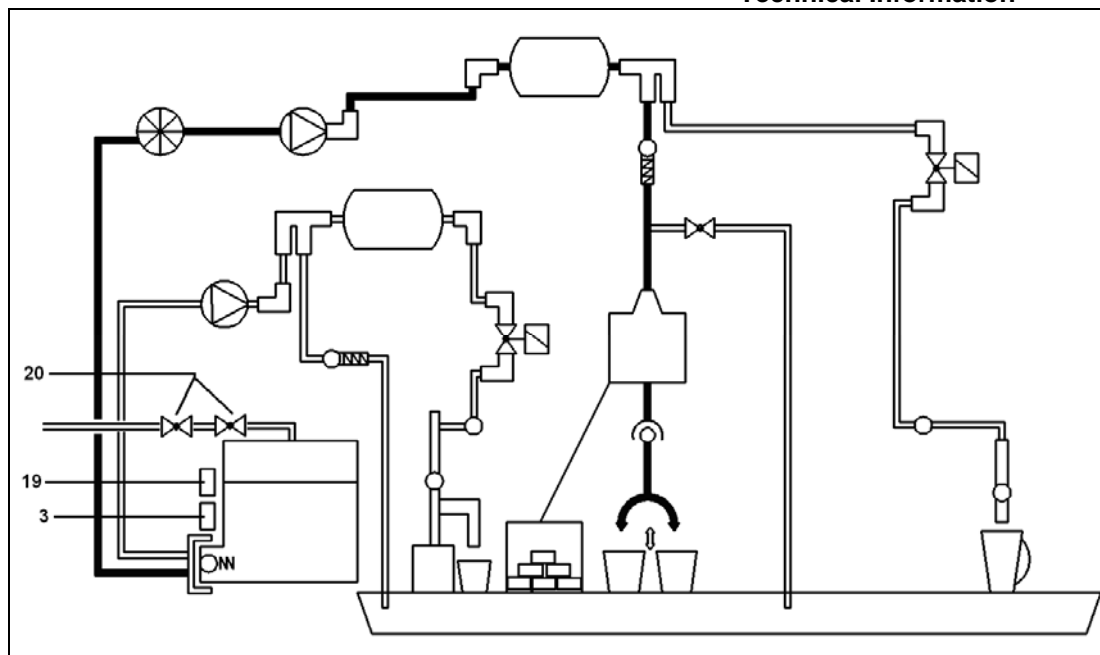

Figure 4-16: CVA 4075 Water Inlet and Tank
- When the appliance is set to **On**, it uses the cold-water line. Additionally, the water tank for the CVA 4075 contains two reed switches: one for a low water level, and one for a high water level (see Figure 4-16). The water tank is automatically filled when the low water level reed switch sends a signal to the electronic for additional water.